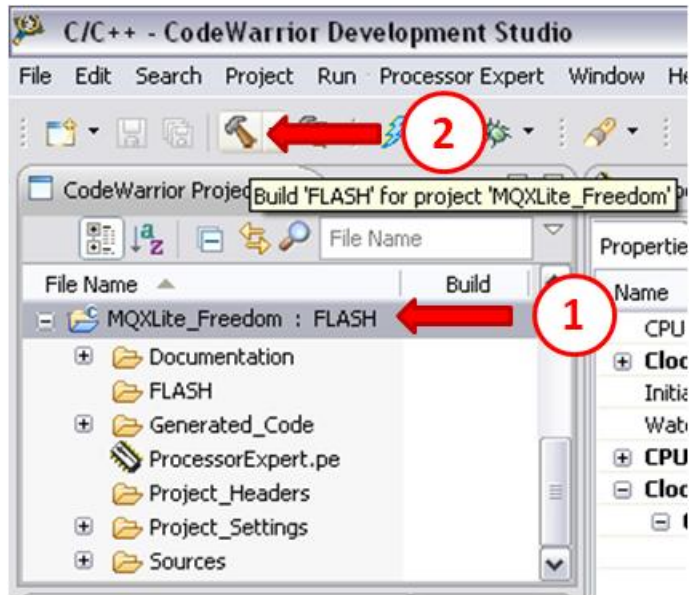

Figure 18. Compiling the project
3. It is necessary to compile the project to verify that there are no errors while using the generated code. To compile the project go to the “CodeWarrior Projects” window. Click in the Project name and then click in the compile button. Figure 18 shows the steps.